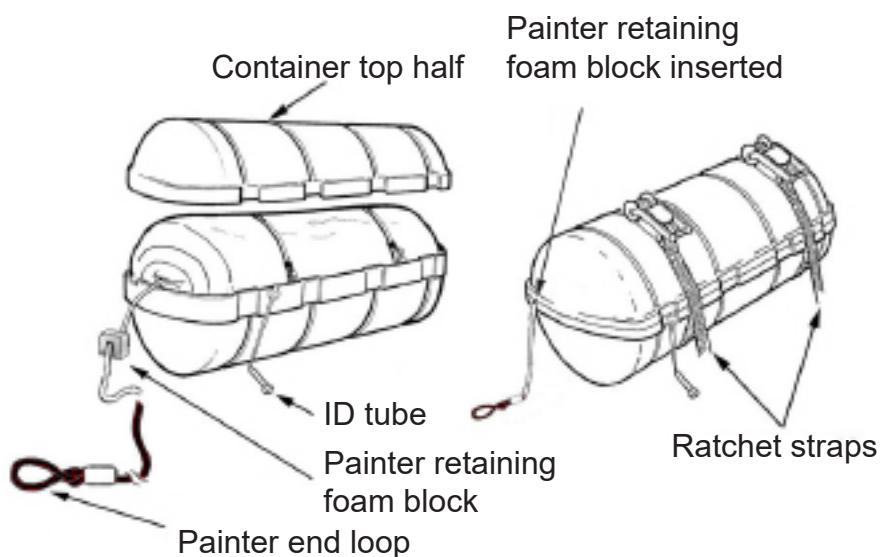

FIGURE A9-16
Refer to FIGURE A9-16.
- 2.49 Place ratchet straps around the container, making sure the straps do not cover the grooves in the container. Refer to FIGURE A9-16.
- 2.52 Continue closing the container slowly, while alternating from one strap to the other. Whilst doing so, CAREFULLY position the top half of the container either by striking it with a rubber mallet or by levering it with a hardwood or metal spatula against the bottom half. Refer to FIGURE A9-16.